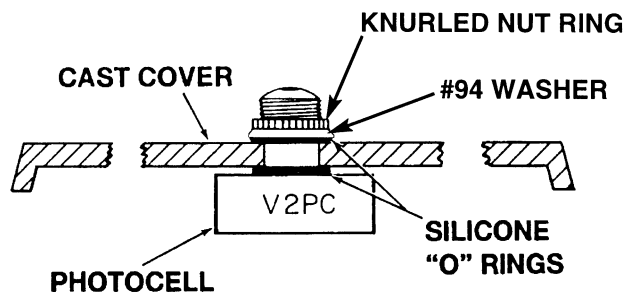

Figure 2
3. Place "O" ring over photocell and insert photocell through drilled hole in mounting module from inner side of cover. (See Figure 2)